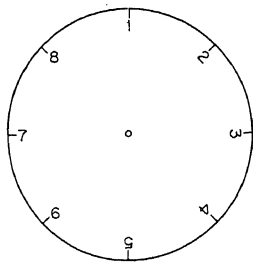

Figure 12-33.—A dial face.
figure 12-33. Note that the figures on the right side of the dial are oriented differently from those on the left side; this illustrates the usual method of positioning characters on dials. The graduations are radially extended from the center of the face. The graduations also divide the dial into eight equal divisions.
9. To engrave numbers positioned as shown on the right side of the dial in figure 12-33, move the worktable so the cutter is in position for engraving the numbers. Rotate the circular copy plate to the numeral 1 and engrave it. Rotate the rotary table 45° and the circular copy plate to 2, and engrave. Continue this process until you have engraved all the numbers. If two (or more) digit numbers are required, offset the dial as previously described.
10. To engrave the numbers shown on the left side of the dial in figure 12-33, rotate the copy plate to the required number and then, using the cross feed and longitudinal feed of the engraver table, position the cutter over the work at the point where the number is required. This method requires that the worktable be repositioned for each individual number. As previously stated, movement of the engraver worktable in two directions results in angular misalignment of the character with the radius of the face; in this example, angular misalignment is required.